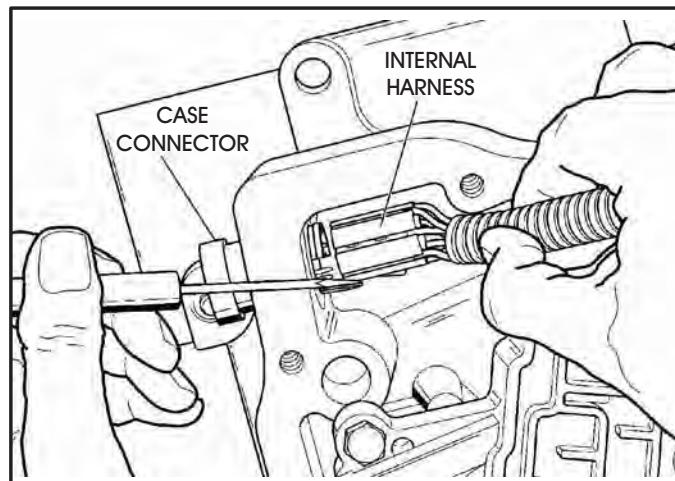

Figure 205
83. Install the internal wire harness into transaxle case connector, as shown in Figure 205, and ensure that it is fully seated.